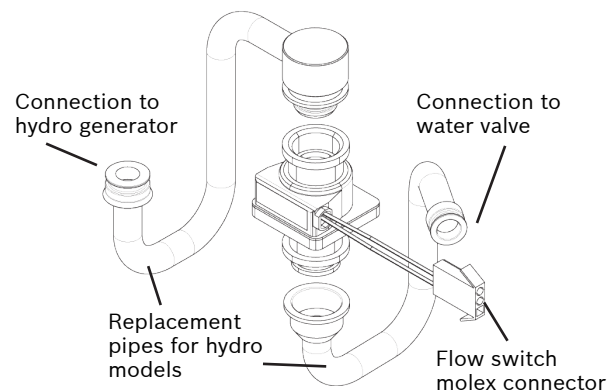

Fig. 9B 1600H/425HN flow switch connections
5. Find and connect the black flow switch to the pipes shown in Fig. 9B.